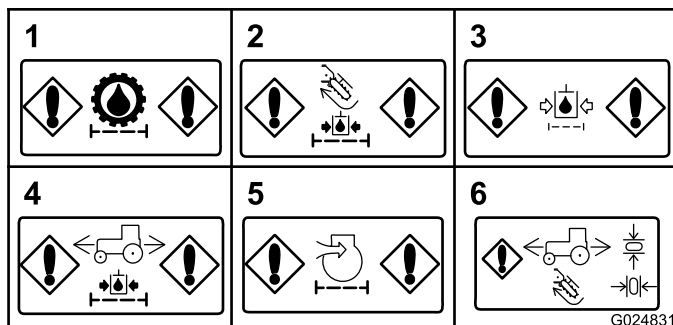

Figure 33
- **Hydraulic-charge filter restriction (accessories)**—This message is displayed if the charge filter for the hydraulic circuit for the accessories is restricted (Figure 33).
- **Hydraulic-return filter restriction**—This message is displayed if the hydraulic-return filter is restricted (Figure 33).
- **Hydraulic-charge filter restriction (traction motor)**—This message is displayed if the charge filter for the traction motor is restricted (Figure 33).
- **Air-filter restriction (engine)**—This message is displayed when the air filter requires service (Figure 33).
- **Return to Neutral indicator**—This indicator is displayed if you attempt an operation that requires you to return the joystick or the traction pedal to the Neutral position. Return the joystick or the traction pedal to the Neutral position before continuing operation (Figure 33).